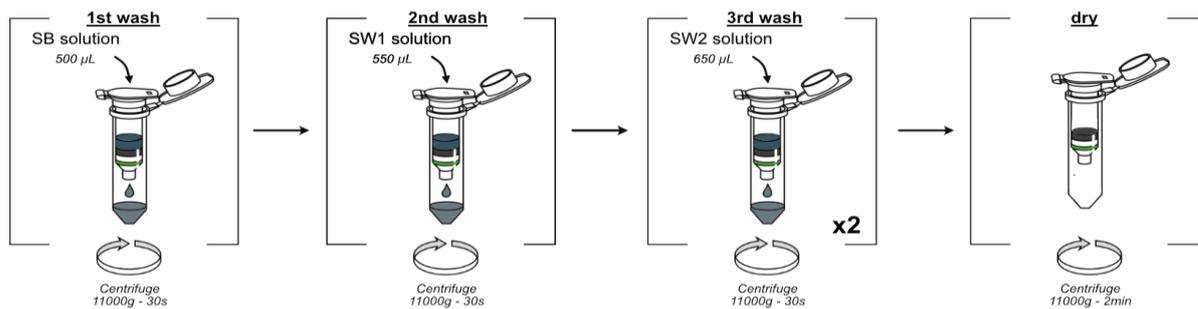

Figure 10. Washing of DNA and Dry silica membrane.
7. Washing of DNA (Figure 10):